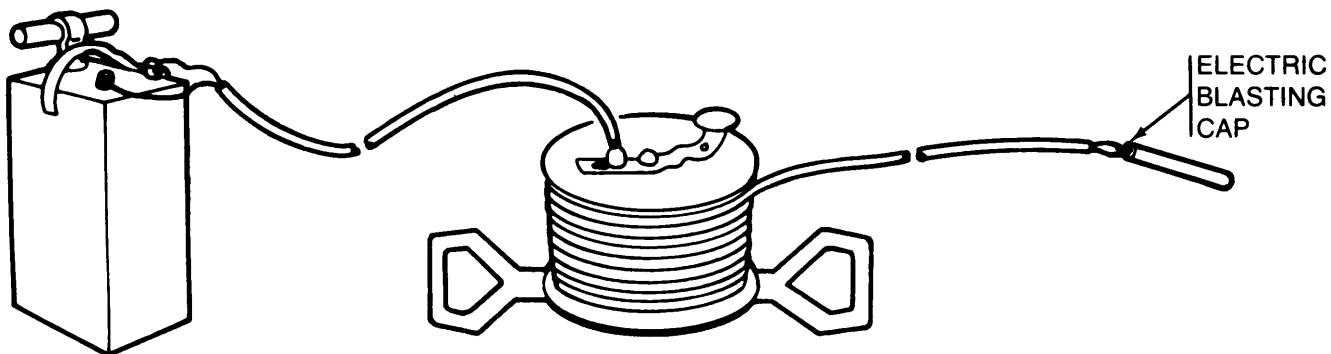

Figure 2-1. Electric Firing System for Demolition Materials.
(1) For electric firing, use electric blasting caps, electrical wiring, and blasting machines, blasting galvanometers, or equivalent sources of electricity (fig 2-1). Perform prefiring tests. Do not connect wires to electrical source until ready to fire charges.